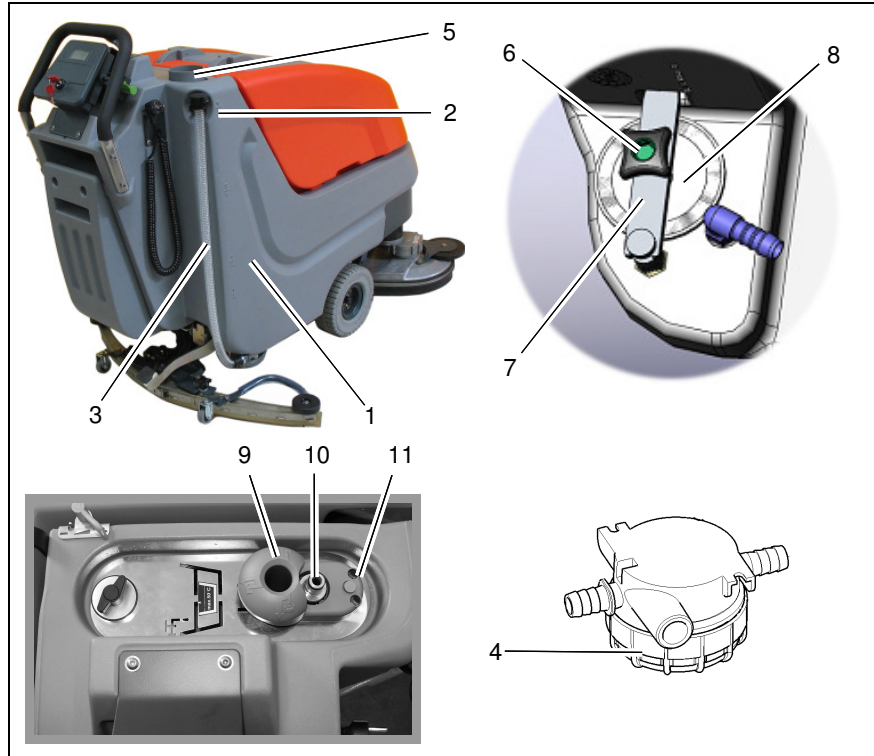

Fig.7
Fill fresh water tank (Fig. 7/1) before work or as required. Park vehicle on level ground. Open tank lid (Fig. 7/5) and fill tank with fresh water up to the maximum (1/1 marker) (Fig. 7/2).
Park vehicle such that the fill level hose (Fig. 7/3) is located above the drain aperture in the floor. Take fill level hose from holder and remove lid.
To open the maintenance hole, loosen the wing bolt (Fig. 7/6), remove the clamping plate (Fig. 7/7) (push upwards and pull out downwards at an angle) and remove the lid (Fig. 7/8) together with seal. After cleaning, close the opening in the reverse working sequence. Check the condition of the seal / sealing surface beforehand. If necessary, replace the seal / clean the sealing surface. Only tighten the wing bolt by hand.
Check fresh water filter (Fig. 7/4) at weekly intervals and clean or replace if required.
1. Empty fresh water tank (Fig. 7/1), see paragraph 5.5.2.
1. Plug on the water connection (Fig. 7/10). Do not open the water supply line at this point!
2. Press the operating button (Fig. 7/9). The indicator knob (Fig. 7/11) projects.
4. The filling unit switches off automatically when the tank is full. The indicator knob (Fig. 7/11) no longer
The machine can also be filled manually through the hole in the operating button (Fig. 7/9). The transparent hose on the machine serves as a fill level indicator.